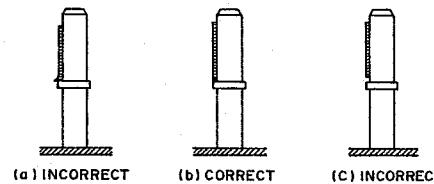

Fig. 4-3
- Slightly turn the ④ screw until the tape edge barely touches the lower part of the TAKE-UP TAPE GUIDE without any curl or wrinkle as shown in Fig. 4-3.
- Adjust the head azimuth again. (Turning the hexagon screw, or ④ screw, will cause head azimuth mis-alignment. Refer to 4-3-1. Azimuth adjustment.)